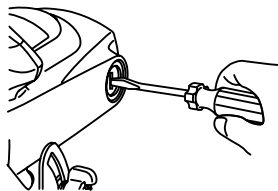
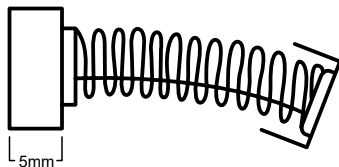

FIGURE 8.1
FIGURE 8.2
- To inspect, use a screwdriver to remove the brush holder caps when accessible (Figure 8.1). Replace them when worn out in a way that makes it impossible to operate the product or 5mm, as shown in Figure 8.2. Next, close the brush holder caps.